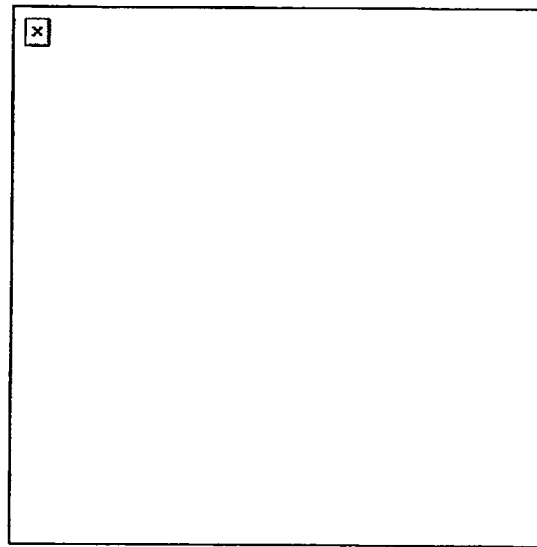

Figure 191-376-4106-1
1. Establish a roadblock according to the team leader's instructions. Refer to Figure 191-376-4106-1.